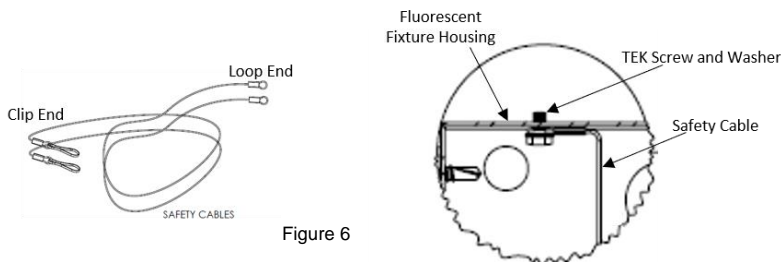

Figure 6
7. For 4ft fixtures, secure the loop end of the two safety cables to the bottom of the existing fixture housing by screwing them about 5" from each end of the housing using supplied tek screws and washers (Fig 6). For 8ft fixtures, also secure two additional safety cables 5" to each side of the center of the housing.